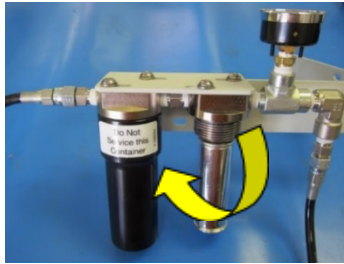

Figure 23: Desiccant Filter Cartridge Removal
3. Remove the desiccant filter cartridge by rotating it counter-clockwise using hand force only. Refer to Figure 23 below.